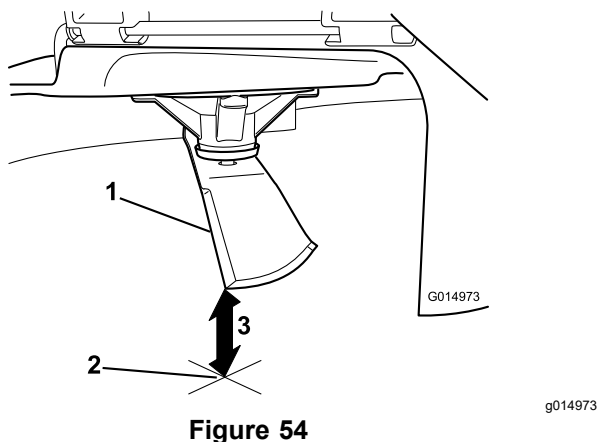

Figure 54
5. Measure from the tip of the blade to the flat surface (Figure 54).